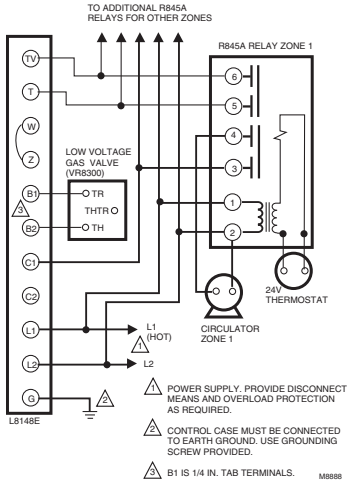

Fig. 1. Adjusting capillary length.
- NOTE: Some models have an adjustable tubing length to 3 in. (76 mm). In these models, extra tubing inside the case can be pulled out, if needed. See Fig. 1.